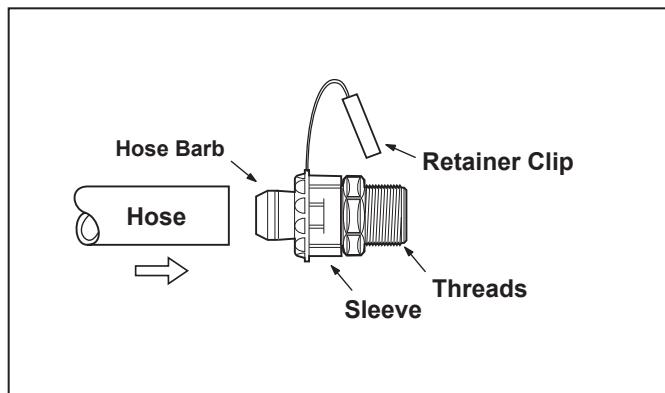

Figure 5. Install the Hose onto the Quick Disconnect
1. Mount the pump using two (2) concrete expansion anchors to ensure stability.
5. Push the hose onto the quick connect until it is flush against the hose barb base. See Figure 5.